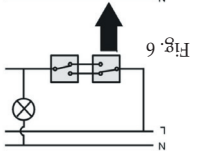

Fig. 6
- To replace a 2 way switch in a two way circuit. (such as stairs). (See Fig. 6)